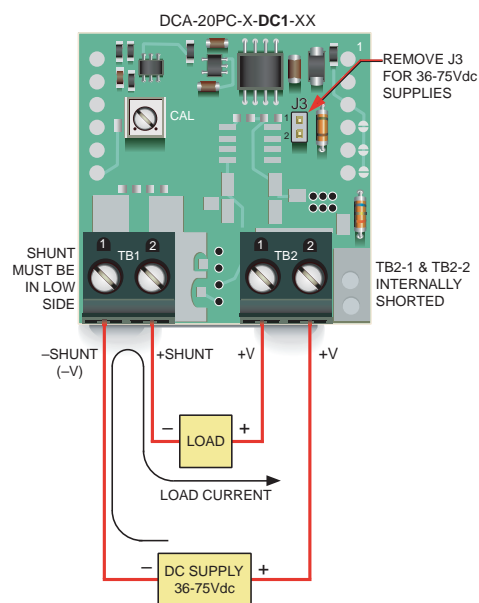

Figure 3. Low-Side Shunt Connections for "-DC1" Models Modified for 36-75Vdc Non-Isolated Power (See Technical Note 6)
**6. Operation With 36 to 75Vdc Power:** As shipped, all '-DC1' models' rated operating supply range is +5 to +40Vdc. However, '-DC1' models can be user configured for 36 to 75Vdc operation by removing (opening) jumper J3. Please note that this modification can only be performed on '-DC1' power models. Also, all '-DC1' models – including those that have been modified for 36-75Vdc operation – can only be connected in low-side, grounded-shunt applications. See Figure 3 for